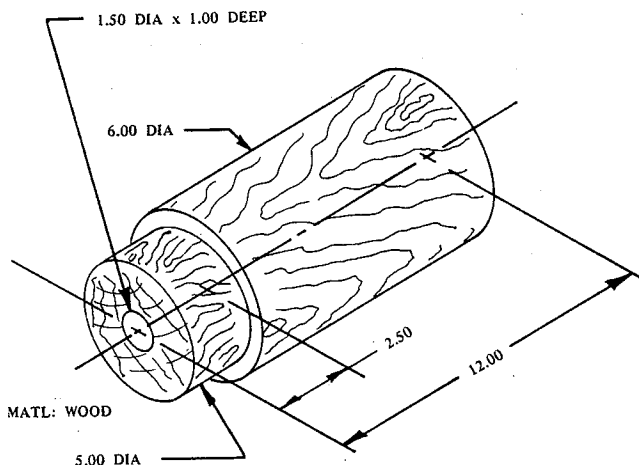

FIGURE 7-1 RAM-END PLATE REMOVAL
8. With a wooden ram similar to that shown in Figure 7-1, and using light hammer taps, drive the end plate from the outboard end. Care should be taken not to scar the walls of the fuel tank or break an end plate.